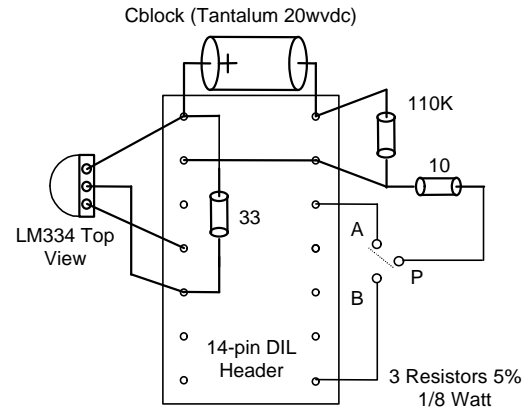

Figure 7 - Physical Construction of Bias Source on a 14-pin Header
Figure 7 illustrates a component layout on a 14-pin dual in-line component header. The A/B selection is accomplished by wiring the end of the 10 ohm resistor to the desired point (pin 12 for analog ground (A), pin 8 for -5 V (B)). The LM334 is in a plastic 3 leaded package, and the top view is shown in Figure 7.